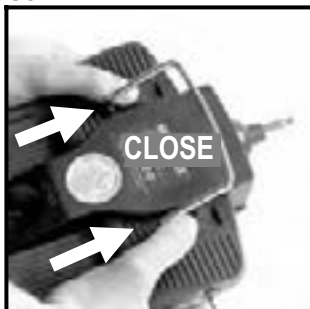

Fig. 9.4.1.4.
- c. Carefully stand the case at an angle on its rear edge, and engage the two retaining lugs on the back panel in their recesses (arrows in → Fig. 9.4.1.3.).